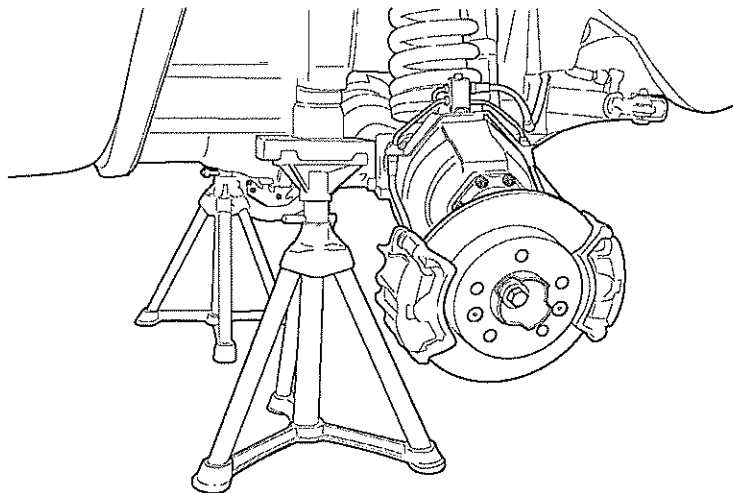

Fig 1 Supporting front body
4.2 Lift vehicle with jack on front axle casing until wheels just clear ground. Support vehicle using suitable stands placed under floorpan support rails (see Fig 1).